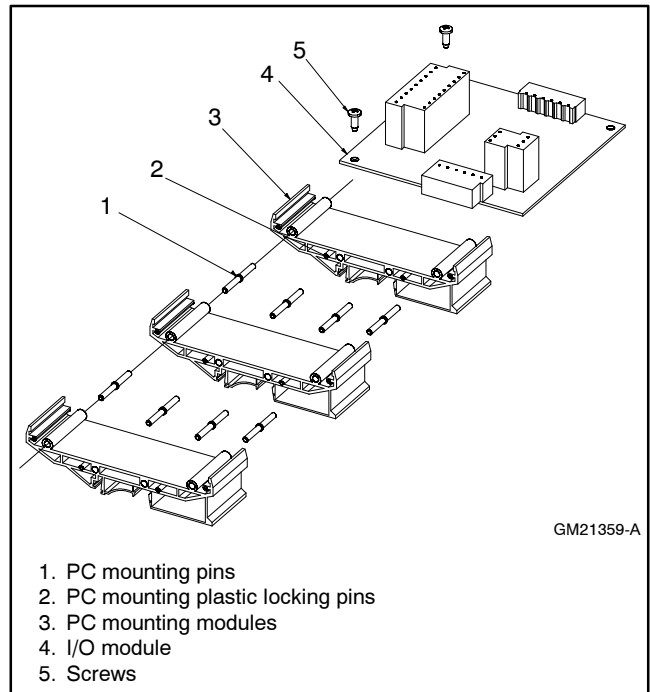

Figure 3 Assembling the I/O Module Kit
- 2.1 Place the 3 PC mounting modules (GM21332) side-by-side. Position all modules with the back mounting clips the same way. See Figure 3.
- 2.5 Carefully install the I/O circuit board (GM21115) in the PC mounting module grooves as shown in Figure 3.